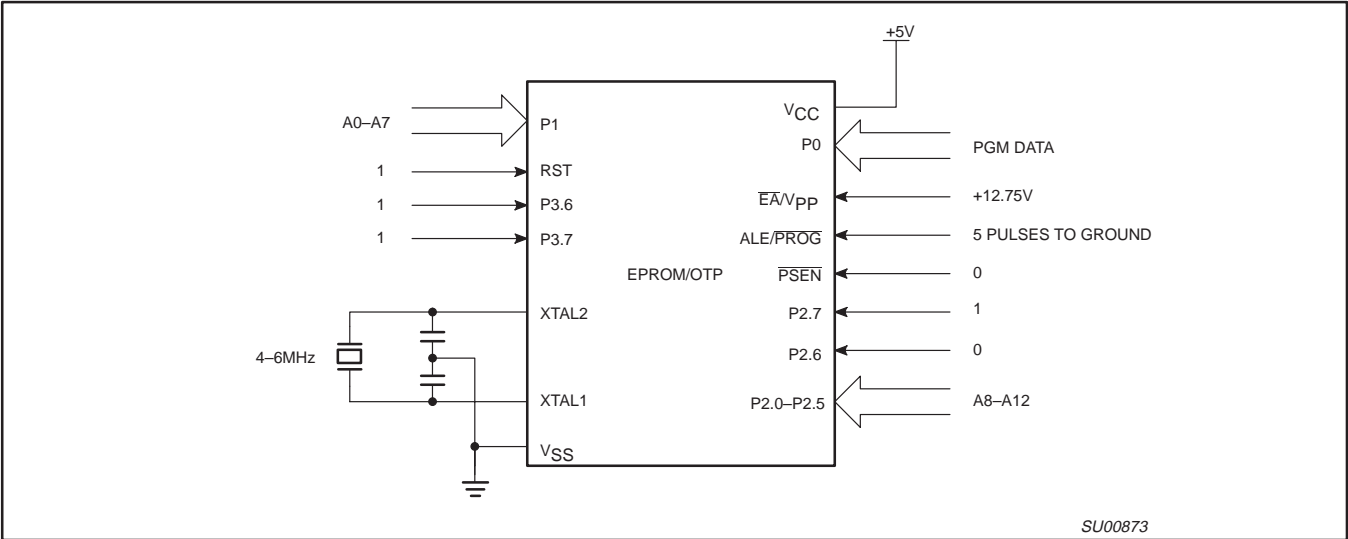

Figure 26. Programming Configuration
Table 8 shows the logic levels for reading the signature byte, and for programming the program memory, the encryption table, and the security bits. The circuit configuration and waveforms for quick-pulse programming are shown in Figures 26 and 27. Figure 28 shows the circuit configuration for normal program memory verification.
The setup for microcontroller quick-pulse programming is shown in Figure 26. Note that the device is running with a 4 to 6 MHz oscillator. The reason the oscillator needs to be running is that the device is executing internal address and program data transfers.
The address of the EPROM location to be programmed is applied to ports 1 and 2, as shown in Figure 26. The code byte to be programmed into that location is applied to port 0. RST, \overline{PSEN} and pins of ports 2 and 3 specified in Table 8 are held at the 'Program Code Data' levels indicated in Table 8. The ALE/PROG is pulsed low 5 times as shown in Figure 27.
- * FOR PROGRAMMING CONFIGURATION SEE FIGURE 26.